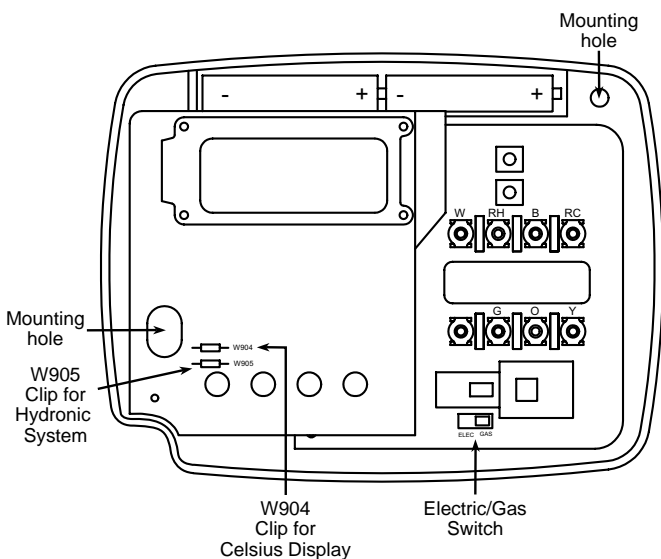

Figure 1. Thermostat base
This thermostat is configured from the factory to operate a heat/cool, fossil fuel (gas, oil, etc.), forced air system. It is configured correctly for any system that DOES NOT require the thermostat to energize the fan on a call for heat. If your system is an electric or heat-pump system that REQUIRES the thermostat to turn on the fan on a call for heat, locate the **GAS/ELECTRIC** switch (see fig. 1) and switch it to the **ELECTRIC** position. This will allow the thermostat to energize the fan immediately on a call for heat. If you are unsure if the heating/cooling system requires the thermostat to control the fan, contact a qualified heating and air conditioning service person.
5. Fasten base loosely to wall, as shown in fig. 1, using two mounting screws. Adjust until level, and then tighten screws. (Leveling is for appearance only and will not affect thermostat operation.) If you are using existing mounting holes, or if holes drilled are too large and do not allow you to tighten base snugly, use plastic screw anchors to secure subbase.
This thermostat requires 2 "AAA" alkaline batteries to operate. If "**LO BATTERY**" is displayed, the batteries are low and should be replaced with fresh "AAA" Energizer® alkaline batteries. To replace the batteries, install the batteries along the top of the base (see fig. 1). The batteries must be installed with the positive(+) ends to the right.